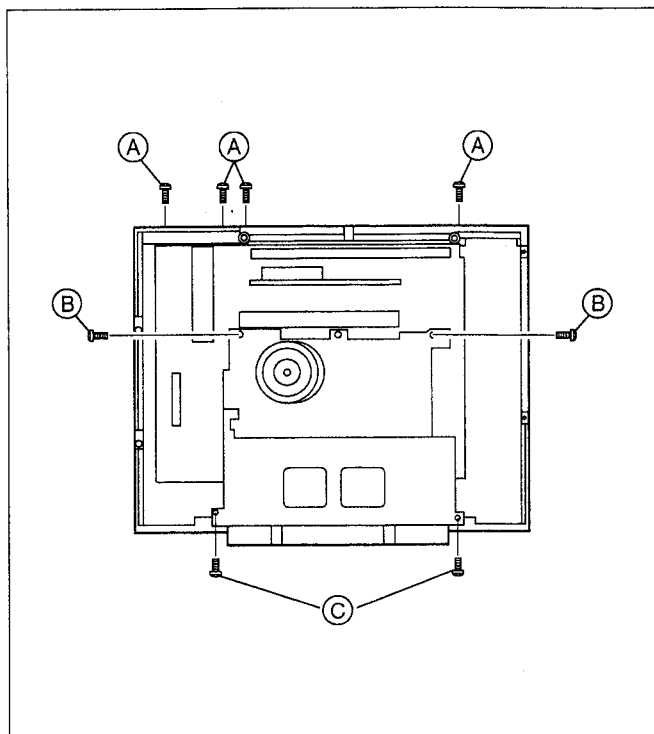

Fig. 1-4-1
- (6) Take out the 4 screws (A), 2 screws (B) and 2 screws (C) as shown in Fig.1-4-1.